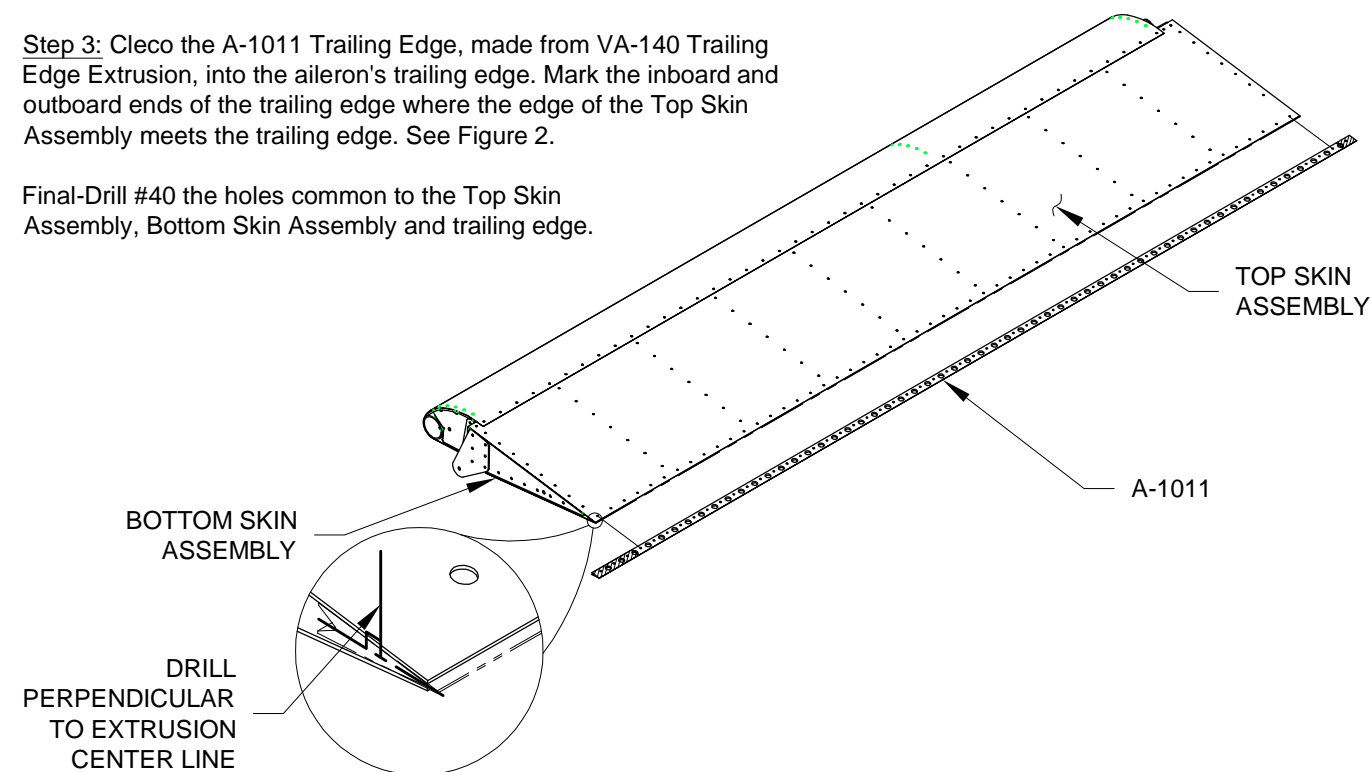

FIGURE 2: INSERT TRAILING EDGE
Step 3: Cleco the A-1011 Trailing Edge, made from VA-140 Trailing Edge Extrusion, into the aileron's trailing edge. Mark the inboard and outboard ends of the trailing edge where the edge of the Top Skin Assembly meets the trailing edge. See Figure 2.